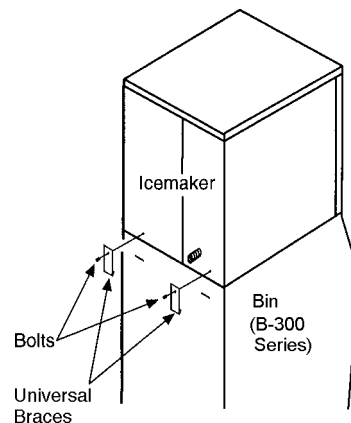

Fig. 2
- 4) Secure the icemaker to the storage bin, by using the two universal braces and two bolts provided. See Fig. 2.